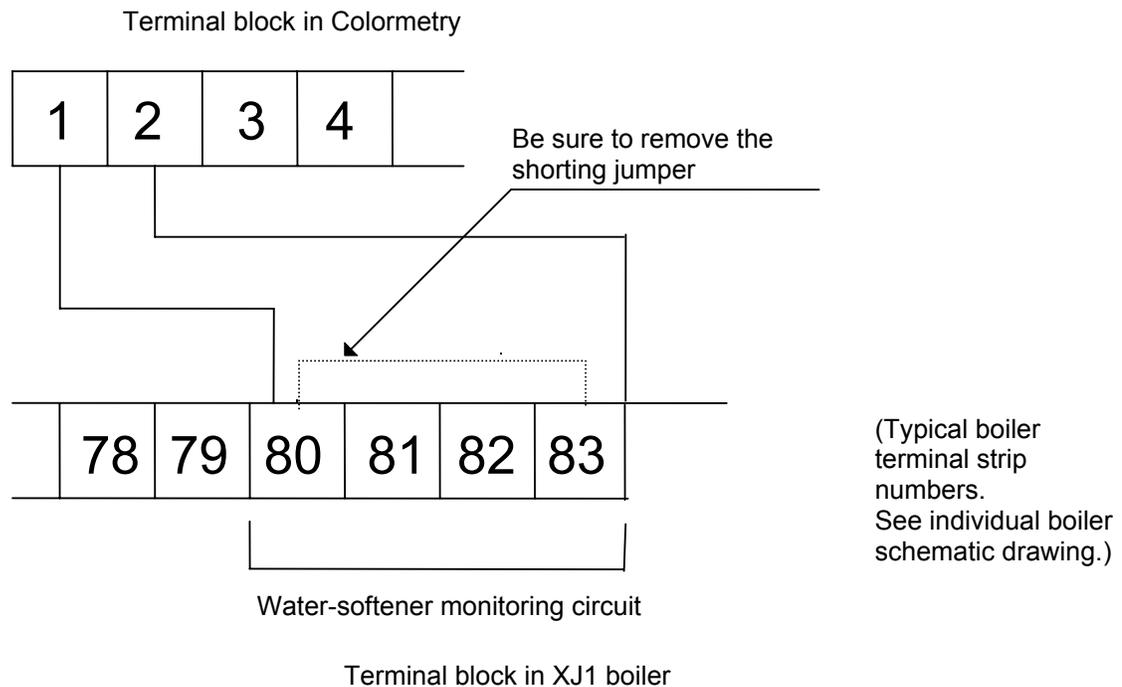

Fig. 9
- A boiler equipped with a XJ1 controller (model LX, EX or WX series) can be configured as shown in Fig. 9 to indicate a caution, "Check softener" message on the boiler display in case of an abnormal condition alarm or a Colormetry system error.